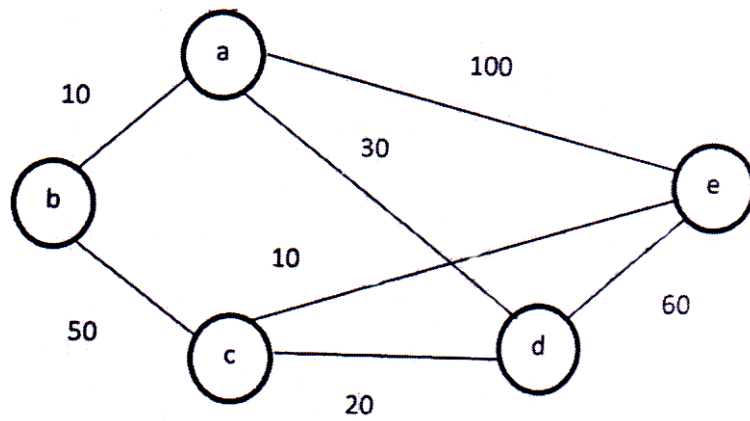

Fig. 4
- c) Find the shortest path from node 'a' to all nodes in the graph shown in fig. 4 using Dijkstra's algorithm. [6]